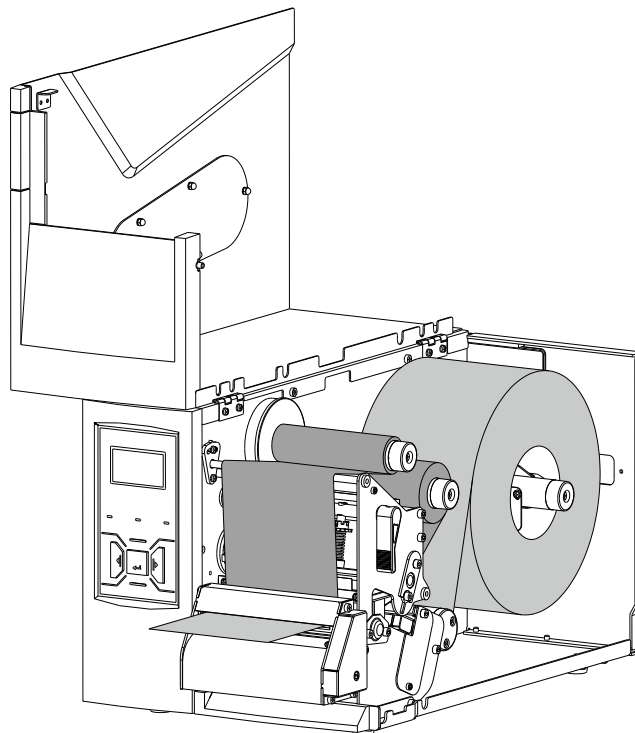

Figure 3-2 Cutter Mode
6. Turn the power supply off. Load the ribbon and media in the order as shown above. Thread the media through the opening on the cutter as shown in Figure 3-2 (only Media Core Supporting Blade mechanism is illustrated).